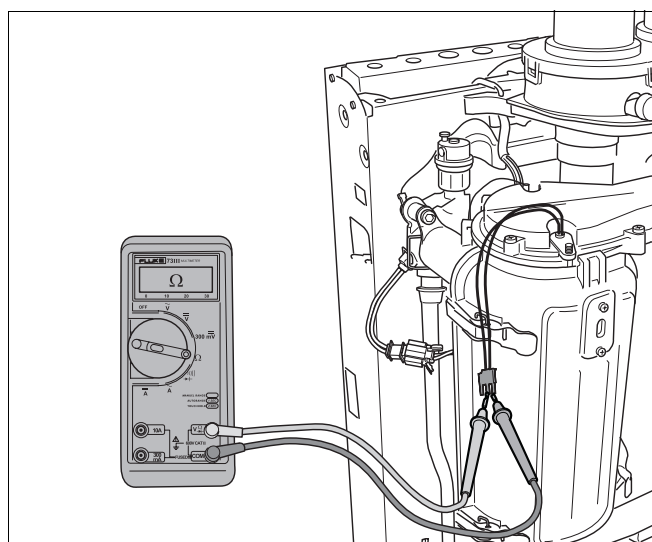

fig. 88 Measuring resistance of hot surface ignitor
- Measure the resistance of the cable (see fig. 88).